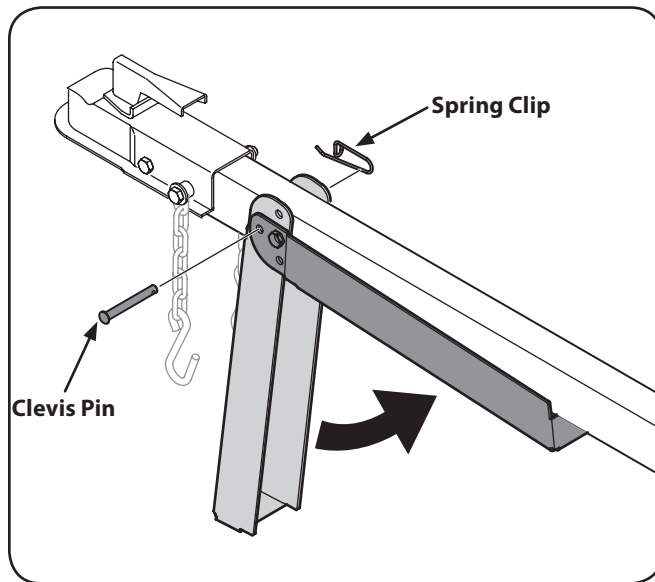

Figure 5-5
3. Support the tongue and pivot the jack stand up against the tongue. See Figure 5-5.
4. Secure with the spring clip and clevis pin previously removed in Step 2. See Figure 5-5.